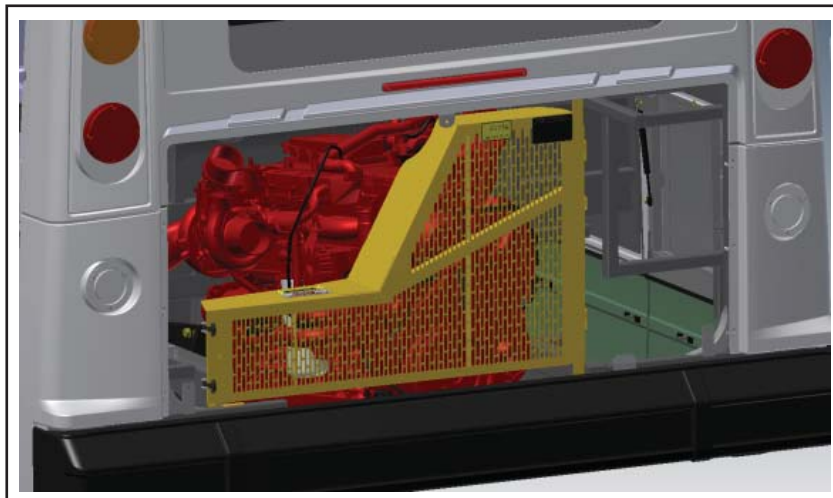

Figure 1 - Typical Location of Engine Bay Access Door
- 1.1. Locate and open the engine bay access door. See Figure 1.